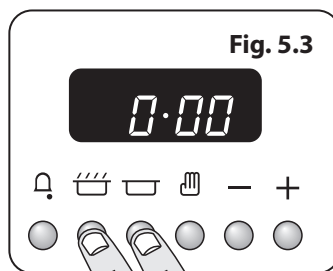

Fig. 5.3
- Press and hold both the [🍲] and [🔔] buttons down (Fig. 5.3). Now press the [+] button (or [-] button) until the correct time shows.